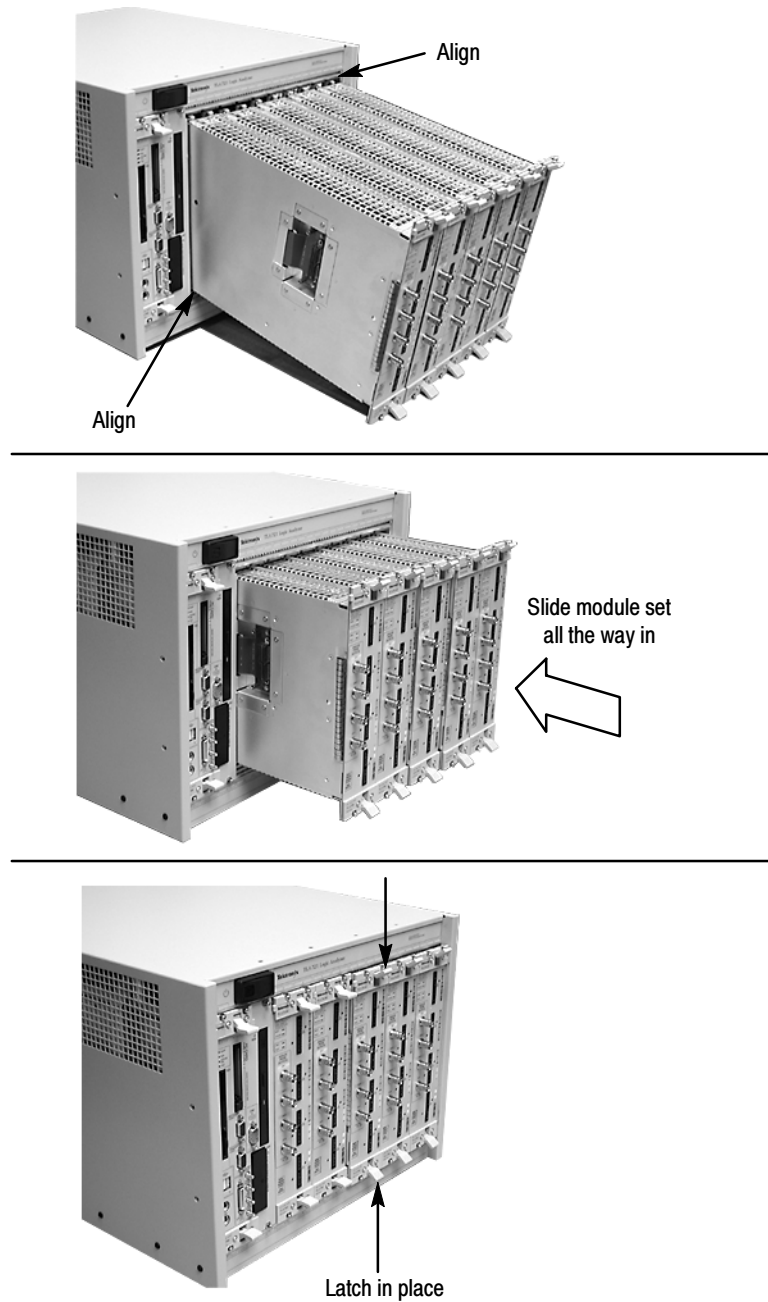

Figure 19: Installing the merged module set in the mainframe
10. Align the tops and bottoms of the modules with the slots in the mainframe (see Figure 19 on page 30). You may need the help of another individual if your merged module set contains more than two modules.